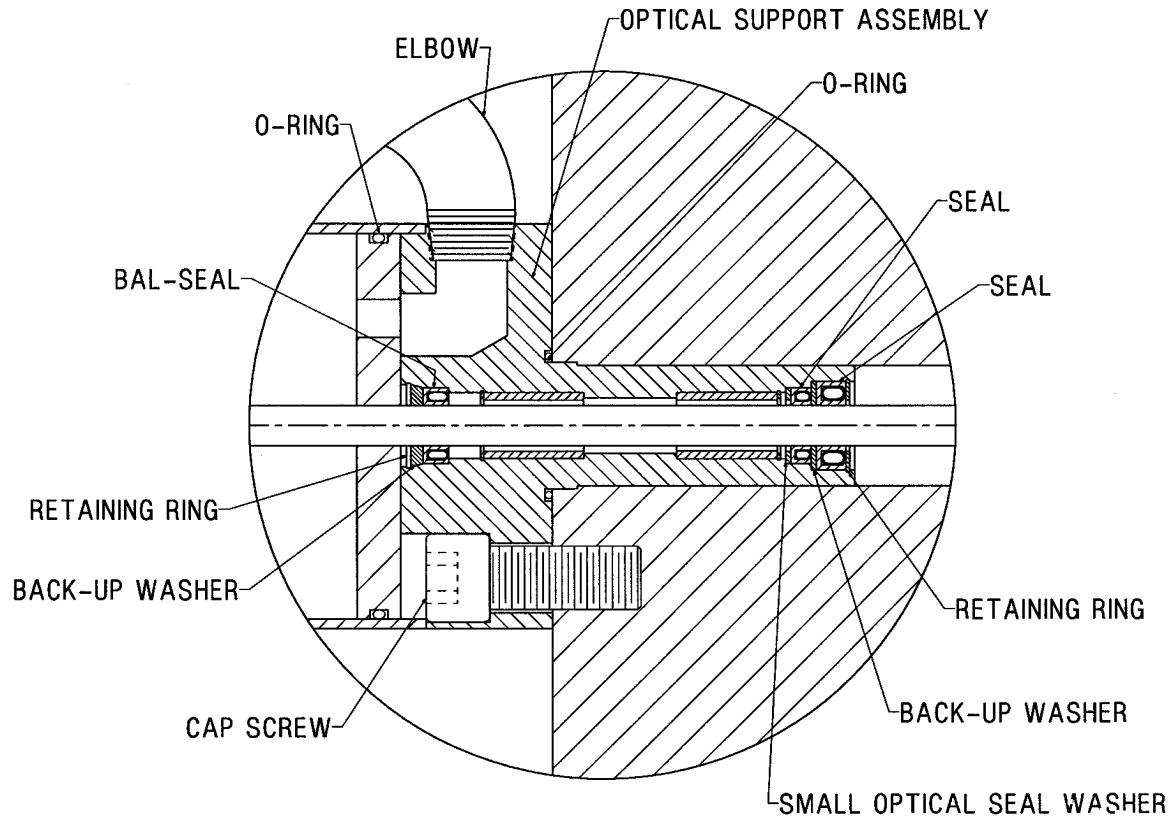

Figure 4-9. Optical Seal Support Assembly
Reference Figure 4-9.
8. Referring to Figure 4-9 remove the retaining rings, seals, and back-up washers from the optical seal support. Inspect for wear or damage.